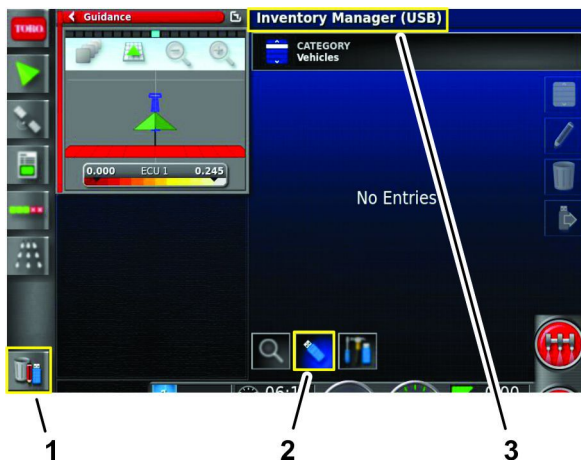

Figure 87
3. Press the Inventory Manager icon (Figure 87).
4. If the title at the top of the screen states Inventory Manager (USB), press the Switch View icon (Figure 87).